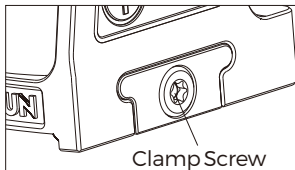

Fig 6-1
3. (Fig 6-1) Use a T10 Torx tool (included) to loosen the clamp screw, then attach the HE509T onto the plate so the recoil lug engages the slot on the plate. Apply forward pressure and tighten to 20 inch/lbs.